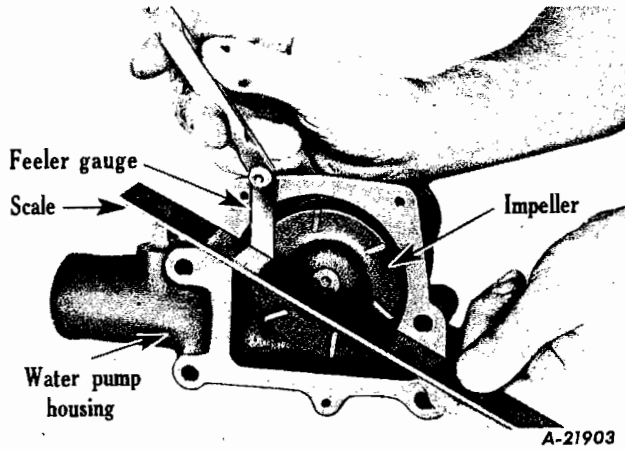

Fig. 40
- Mount assembly in press. Press impeller on rear end of shaft. Place a straight edge across the back of the water pump housing and check the clearance between the straight edge and impeller. There should be about .025" clearance (Fig. 40).